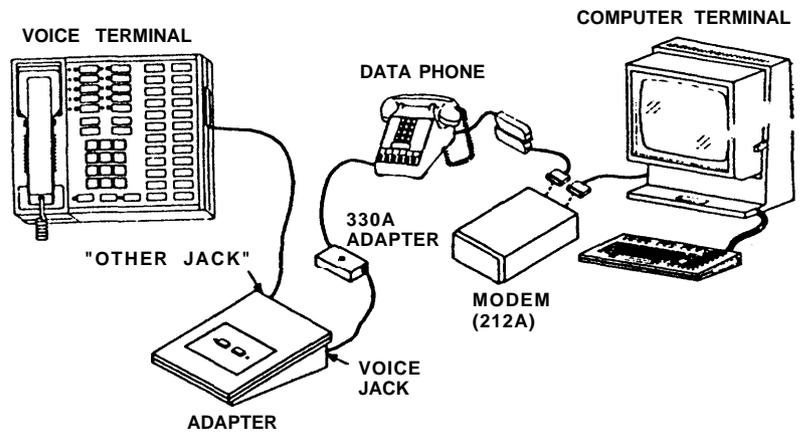

Figure 3
1. Connect the modular cord (D4CH) from the 330A Adapter that comes with the data phone modem (Figure 3) to the VOICE jack on the back of the adapter.